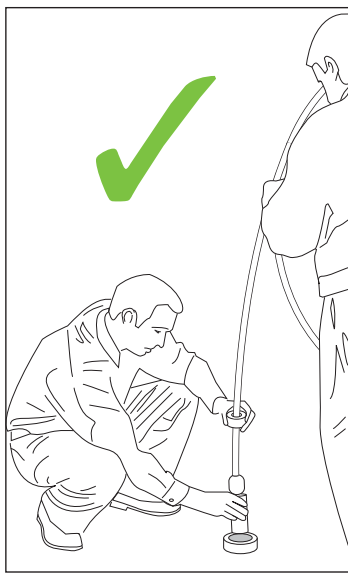

Figure 11. Correctly lowering probe into tank
3. When lifting the coiled probe prior to installation, the stainless steel weight must always hang straight down (see Figure 11). **DO NOT BEND THE TUBING.** Do not let the radius of the coiled probe become less than 23" or the brass tube may kink. **KINKING THE PROBE IS NOT COVERED BY WARRANTY!**
4. Using two people as shown in Figure 11, lower the weight into the tank. Do not drop the weight the full length of the probe or it may damage the end of the probe. Slowly feed the probe into the riser, cutting the remaining tie wraps, one by one, as you go. Do not cut all of the tie wraps at once. They have been sequentially marked. Start with tie wrap number 1 at the bottom end of the probe.
1. When lifting the coiled probe prior to installation, the stainless steel weight must always hang straight down (see Figure 11). **DO NOT BEND THE TUBING.** Do not let the radius of the coiled probe become less than 23" or the brass tube may kink. **KINKING THE PROBE IS NOT COVERED BY WARRANTY!**
2. Using two people as shown in Figure 11, lower the weight into the tank. Do not drop the weight the full length of the probe or it may damage the end of the probe. Slowly feed the probe into the riser, cutting the remaining tie wraps, one by one, as you go. Do not cut all of the tie wraps at once. They have been sequentially marked. Start with tie wrap number 1 at the bottom end of the probe.